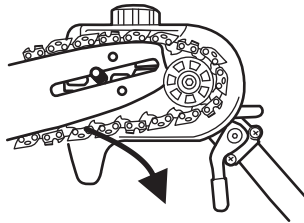

Fig. 35f
8. Align the saw chain around the drive sprocket (D10) and place one corner of the guide bar into a gap of the sprocket. (See Fig. 35f)